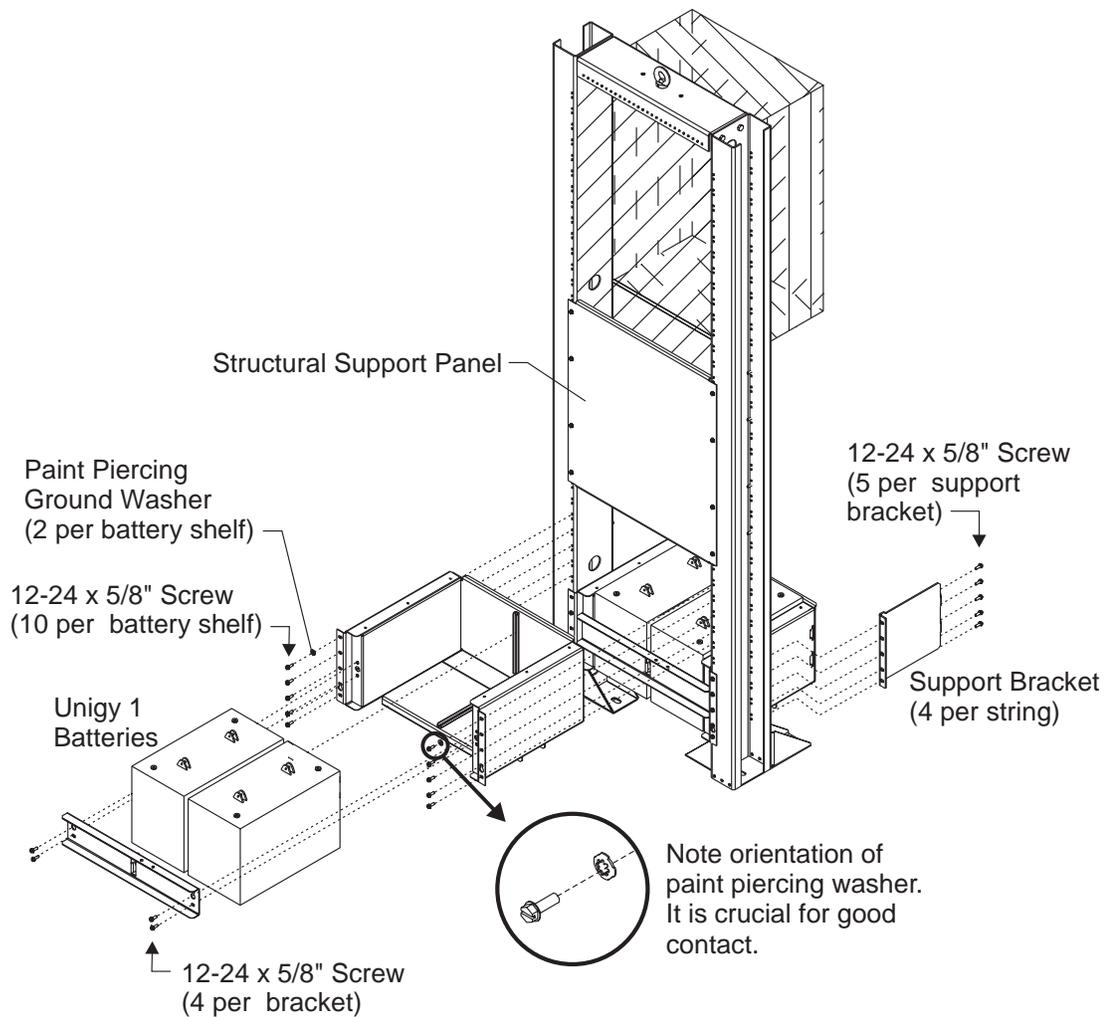

Figure 5-2: EPS 4802A Battery box installation
Battery Shelf Assembly Each battery shelf supports two batteries. Each battery string requires two battery shelves. Two battery strings may be installed in a frame. See Figure 5-2 for relationship of pieces.
1. If required, remove the structural support panel. See Figure 5-2.